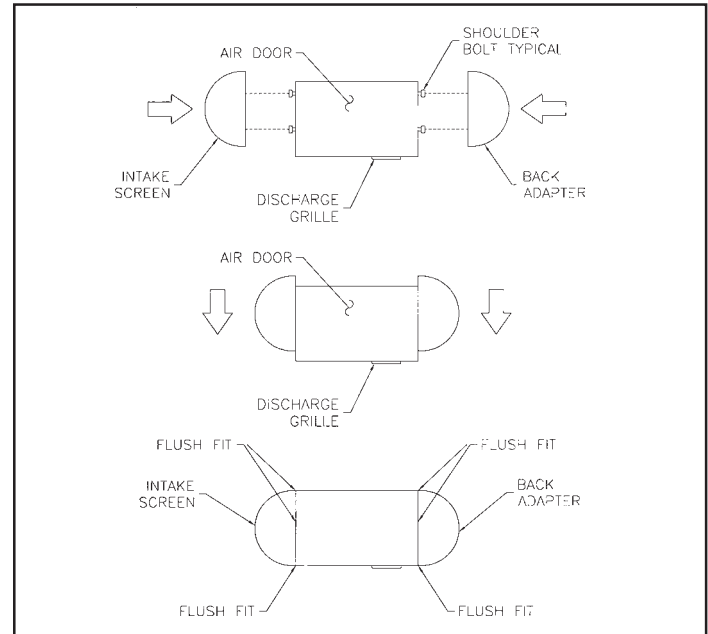

FIGURE 15 - Attaching Intake Screen or Back Adapter
- M. Attach the perforated intake grille on the 1/4" shoulder bolts of the unit. **See Figure 15.** While holding the grille level with the unit, align the keyhole slots with the shoulder bolts. Press the grille firmly against the unit and push down until the grille rests flush with the bottom of the unit.